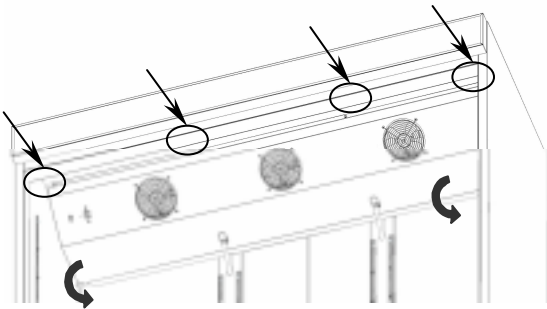

FIGURE 10 – RELEASE EVAPORATOR COVER
4. Remove the 4 philips screws that hold the evaporator cover. (See Figure 10)